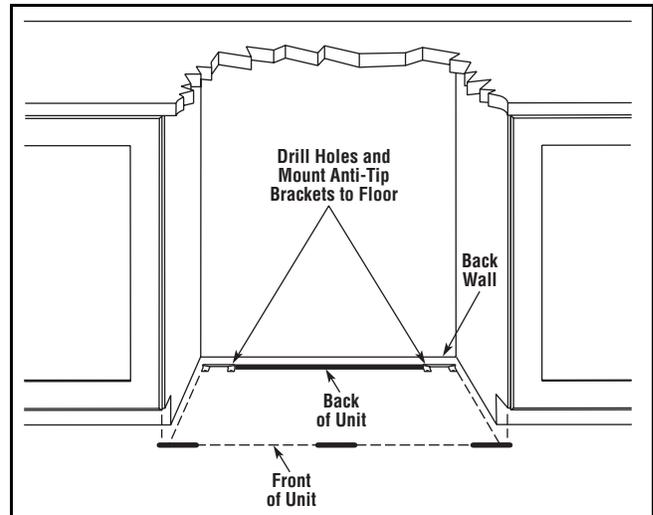

Figure 29
- Place the Anti-Tip brackets on the floor against the line drawn for the outer edge. Mark spots for the screw holes (**Figure 29**).